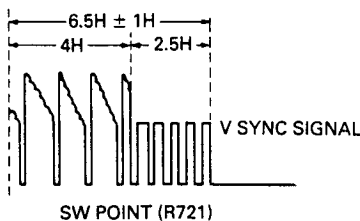

Figure 53.
5. Selecting (-) sync slope with the oscilloscope, adjust R721 to meet the requirements given in Figure 53.